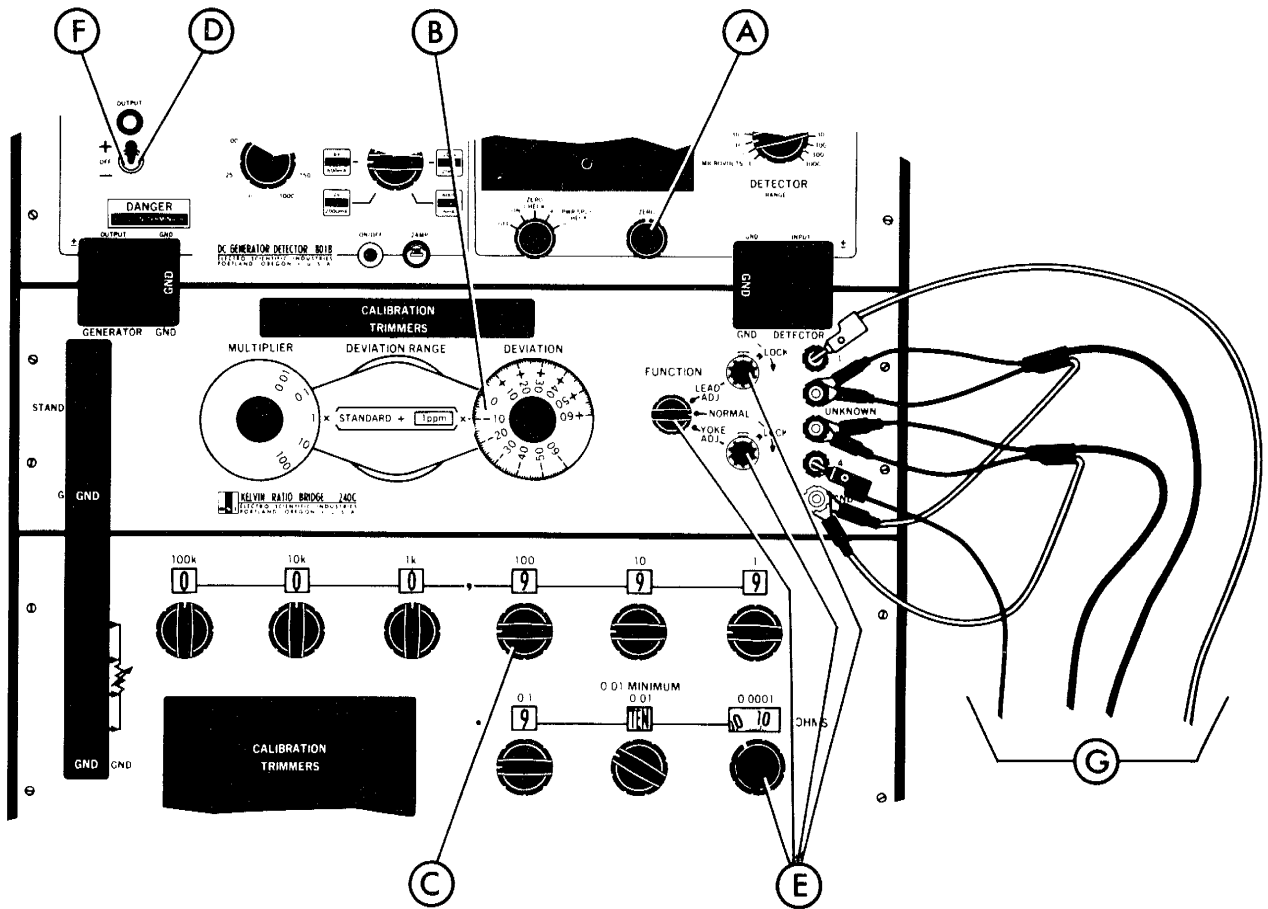

Figure 5-22. Bridge Calibration at 1 kilohm
22. Calibrate the 242D Bridge to the 1 kilohm transfer standard. Reference Figure 5-22.